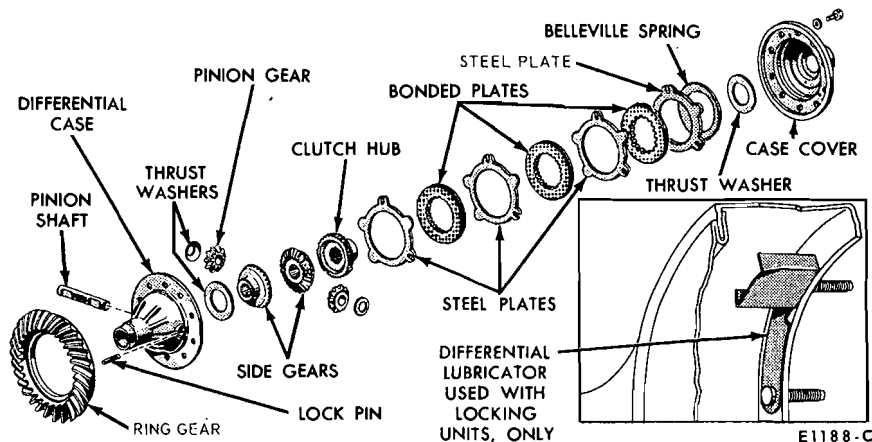

FIG. 21—Locking Differential Assembly
3. Remove the Belleville spring (Fig. 21).